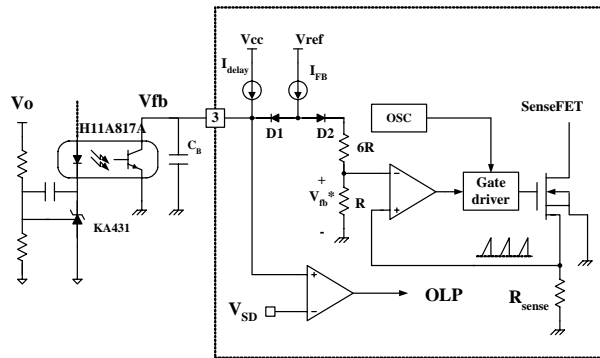

Figure 5. Pulse-Width Modulation (PWM) Circuit
**2. Feedback Control:** FPS employs current mode control, as shown in Figure 5. An opto-coupler (such as the H11A817A) and shunt regulator (such as the KA431) are typically used to implement the feedback network. Comparing the feedback voltage with the voltage across the  $R_{sense}$  resistor makes it possible to control the switching duty cycle. When the reference pin voltage of the shunt regulator exceeds the internal reference voltage of 2.5V, the opto-coupler LED current increases, pulling down the feedback voltage and reducing the duty cycle. This event typically occurs when the input voltage is increased or the output load is decreased.
**2.1 Pulse-by-Pulse Current Limit:** Because current mode control is employed, the peak current through the SenseFET is limited by the inverting input of PWM comparator ( $V_{fb}^*$ ), as shown in Figure 5. Assuming that the 225 $\mu$ A current source flows only through the internal resistor ( $6R + R = 11\text{ k}\Omega$ ), the cathode voltage of diode D2 is about 2.5V. Since D1 is blocked when the feedback voltage ( $V_{fb}$ ) exceeds 2.5V, the maximum voltage of the cathode of D2 is clamped at this voltage, thus clamping  $V_{fb}^*$ . Therefore, the peak value of the current through the SenseFET is limited.